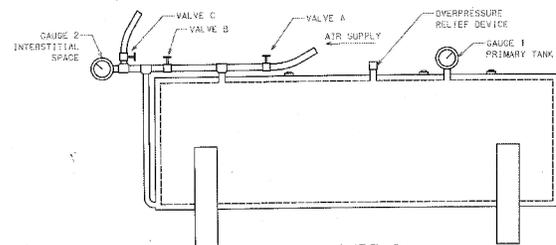

FIGURE 2
3.2.2.2 Install the test piping as shown in Figure 2. Close valves A and B. Open valve C. Temporarily plug, cap or seal off remaining tank openings to hold pressure.
3.2.2.3 Connect the regulated test air supply line to test piping as shown in Figure 2.